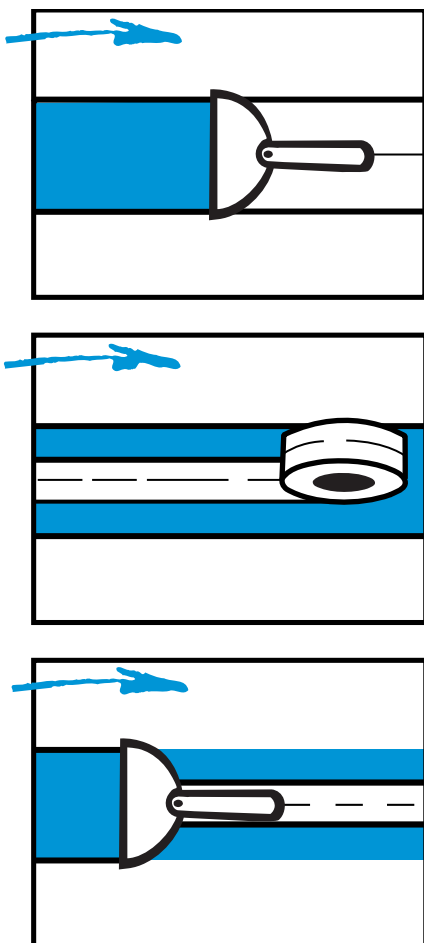

FIGURE 60 Bedding Coat
- > Using a broadknife, evenly fill the recess with compound [Refer to Figure 60 for minimum coat widths]
- > Place Siniat **paper tape** along the joint and bed it into the compound, removing excess compound and any air bubbles from behind the **paper tape** [Refer to Figure 60]